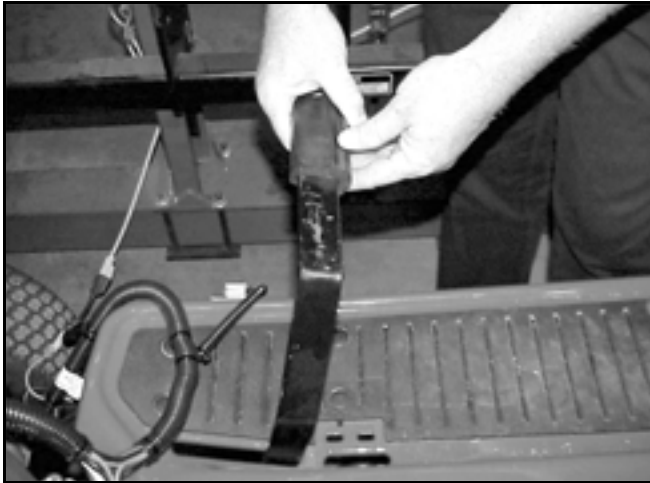

Figure 172
11. Remove the rubber grip from the brake pedal (Figure 172).